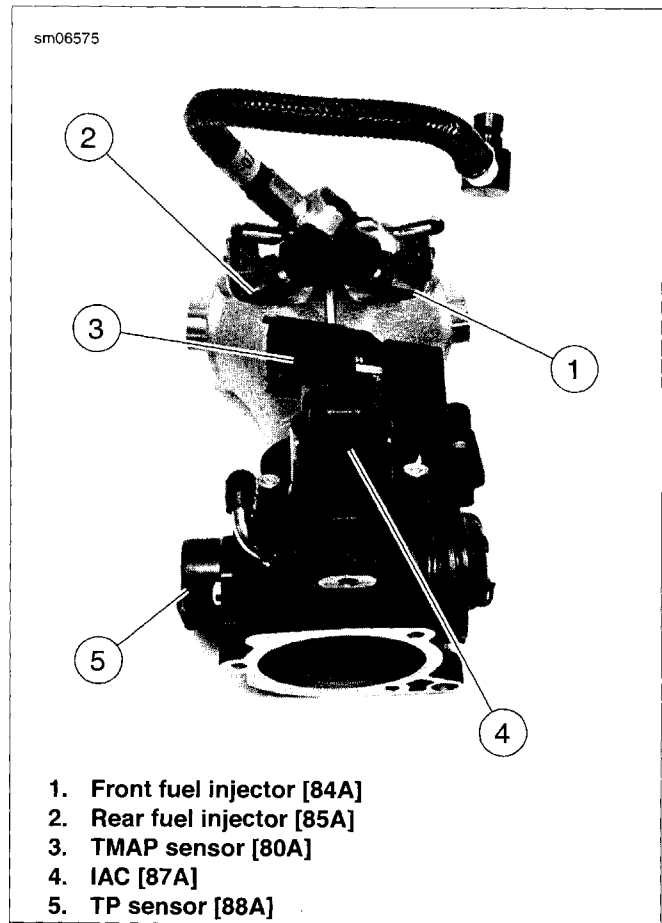

Figure 4-49. Induction Module Electrical Connectors
17. See Figure 4-49. Plug in the following connectors:
- a. Front fuel injector (1) connector [84],
- b. Rear fuel injector (2) connector [85],
- c. TMAP sensor (3) connector [80],
- d. IAC (4) connector [87],
- e. TP sensor (5) connector [88].